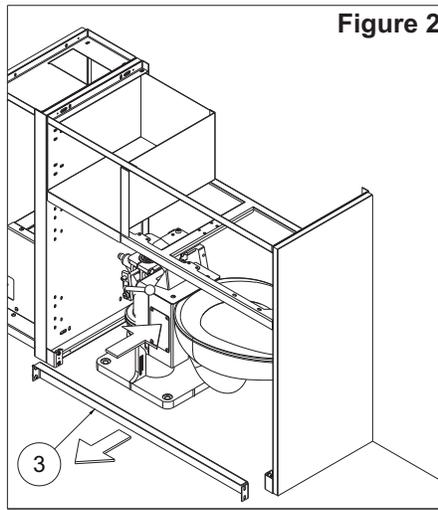

Figure 2
- C. Remove the Toe Plate [3] and slide in the Toilet lowering the unit over the Pedestal Anchors [1].(Figure 2)